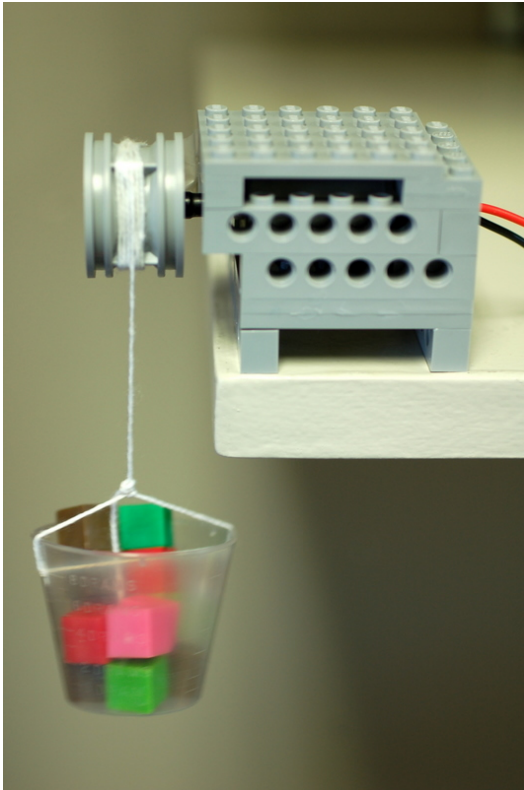

Figure 8. Motor with Lego wheel.
Step 2: Set up Motor demonstration- How much force can a motor exert? Ask students about their prior knowledge of forces. Do they understand that a force is just a push or a pull? Magnets can create forces, and this force causes the motor to spin. When the motor spins, it can put a force on something else connected to the shaft. See Figure 8.